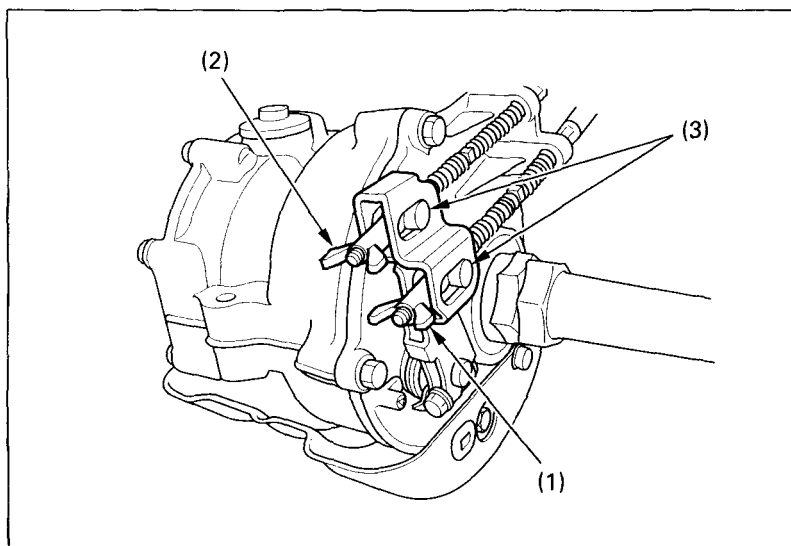

Fig. 4-25
(1) Rear brake pedal
To adjust the free play, turn the brake pedal adjusting nut (1), (Fig. 4-25), located on the brake operating rod at the rear of the frame. Make sure the cut-out on the adjusting nut is properly seated on the brake arm pin (3).
To adjust the free play, turn the brake lever adjusting nut (2), (Fig. 4-25), located on the brake operating rod at the rear of the frame. Make sure the cut-out on the adjusting nut is properly seated on the brake arm pin (3).